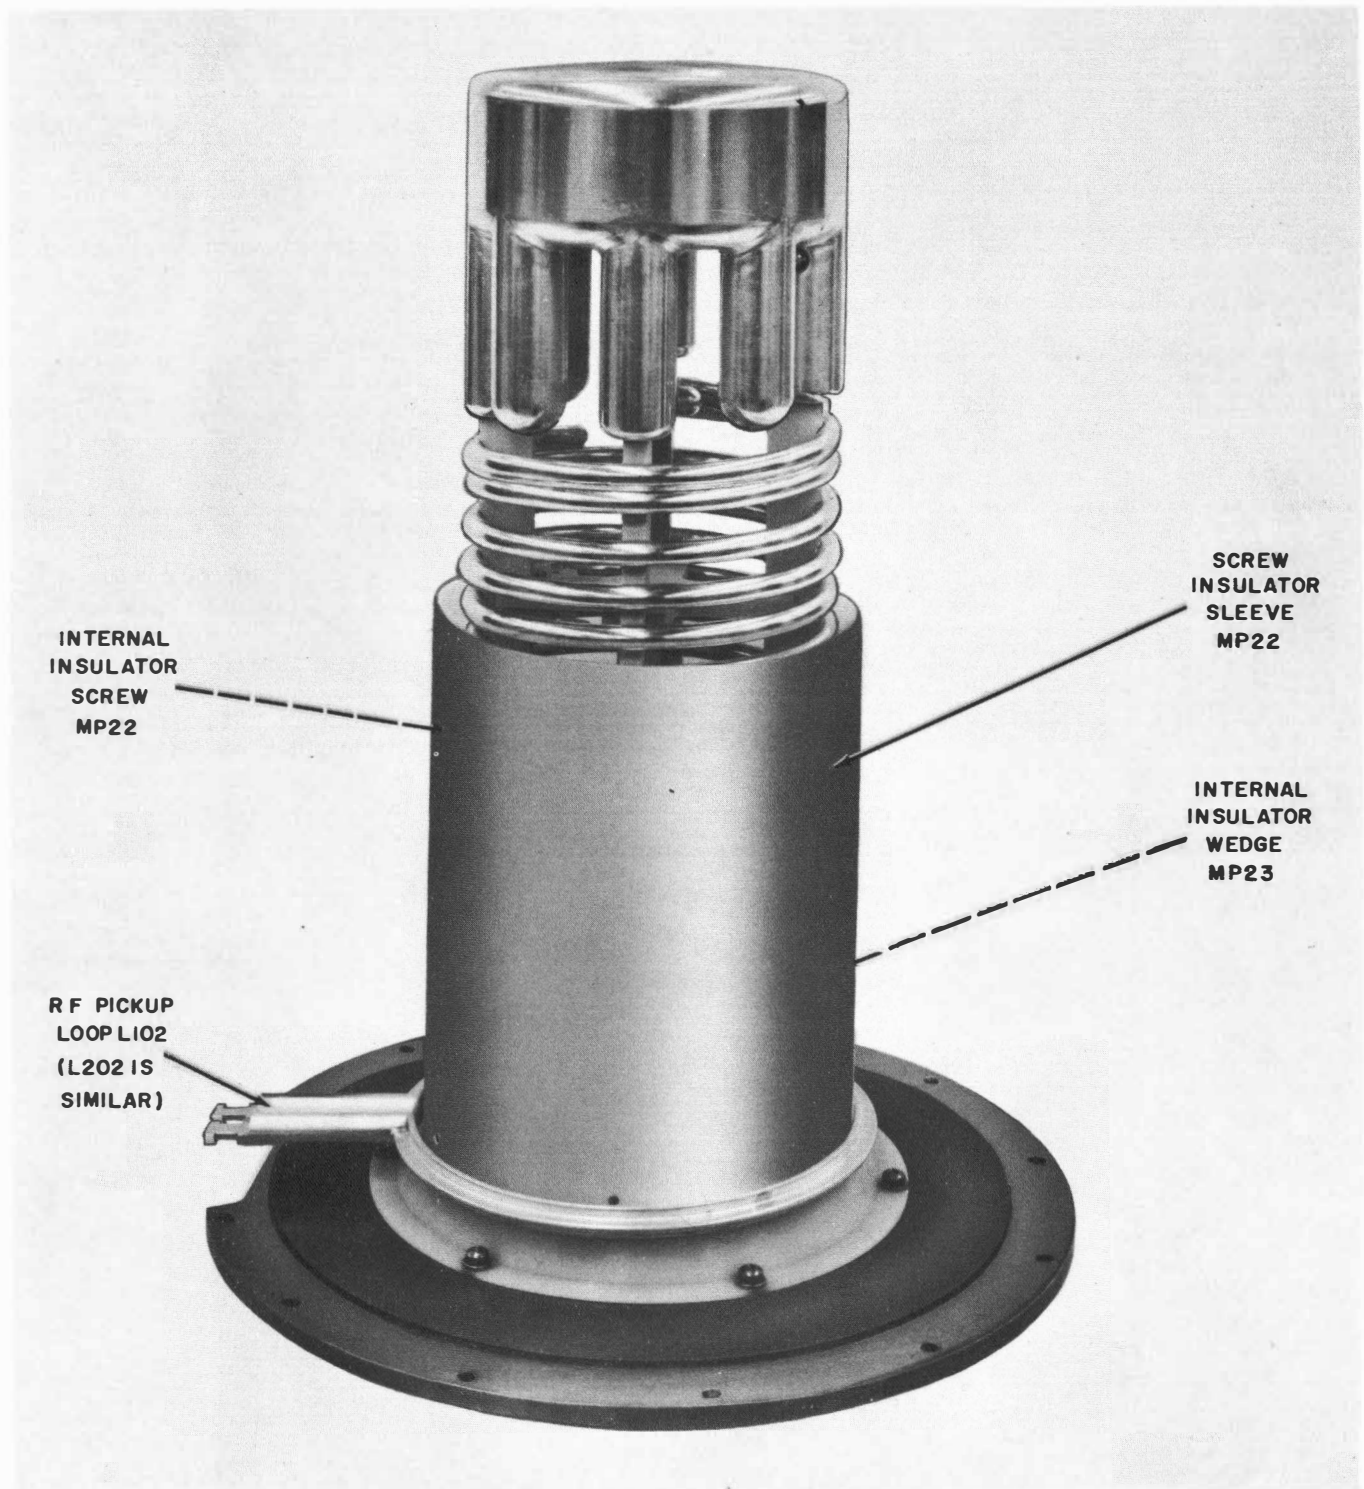

Figure 6-14. Coil Subassembly, With Pickup Loop
- (1) Remove the antenna coupler (see steps 6-5c and 6-5d).
- (2) Place the antenna coupler housing drum on its side and remove the 12 mounting bolts and hardware from the end away from the gear assembly.
- (3) Pull out the coil subassembly (see figure 6-14).